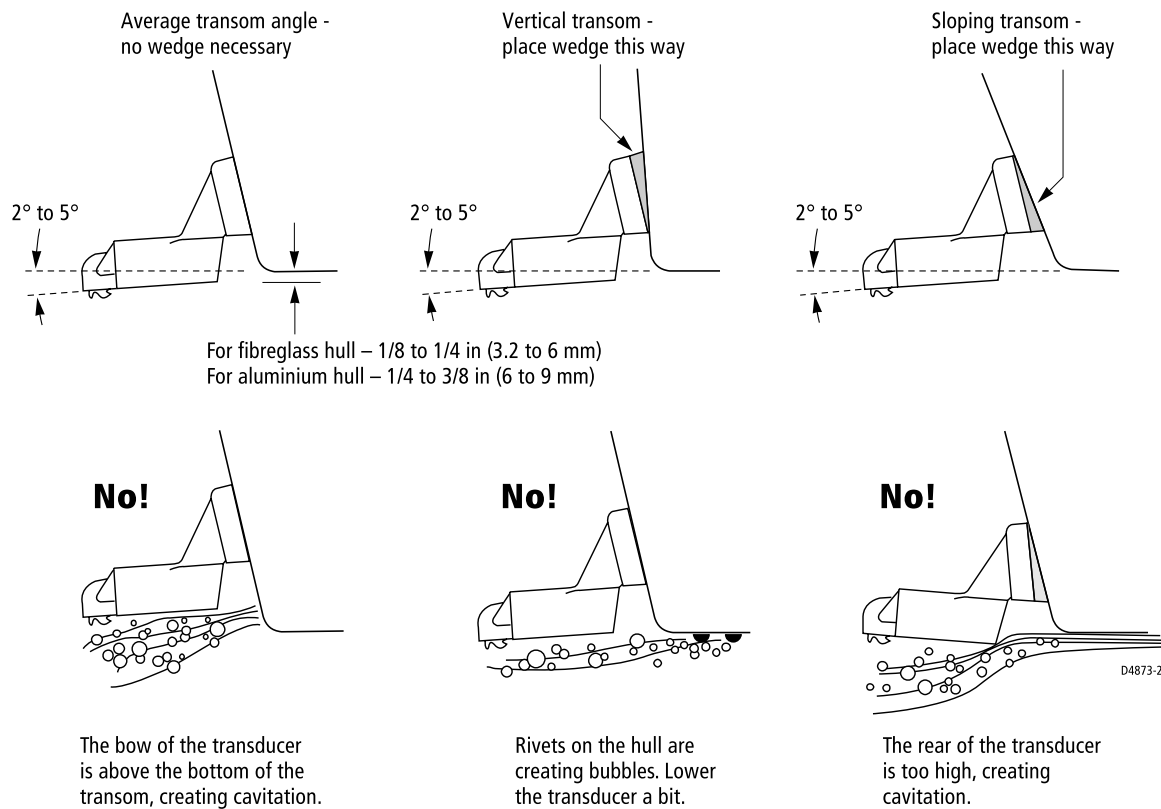

Figure 2-5: Transom Mount Transducer - Vertical Position
- On a boat with a fiberglass hull, the leading edge of the transducer should extend 1/8" (3.2 mm) to 1/4" (6 mm) below the bottom edge of the hull as shown in Figure 2-5 . On an aluminum hull, the transducer should extend a bit more – 1/4" (6 mm) to 3/8" (9 mm)
4. Move the bracket up or down so the leading edge of the transducer has the clearance shown in Figure 2-5 .